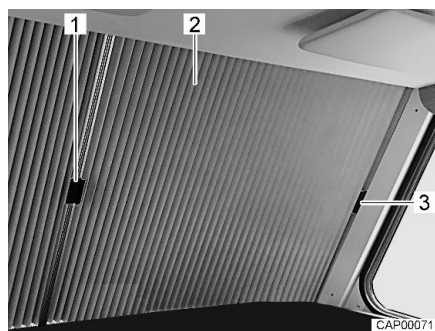

Fig. 24 Roman shade for windscreen (closed)
- Pull the respective handle (Fig. 24,1) of both halves of the Roman shade (Fig. 24,2) carefully towards the centre of the windscreen until the magnetic catch holds the Roman shade in closed position.
- Push the respective handle (Fig. 24,1) of both halves of the Roman shade (Fig. 24,2) outwards, underneath the cover on the A column.
- Fix the handles respectively by plugging them onto the cover (Fig. 24,3).